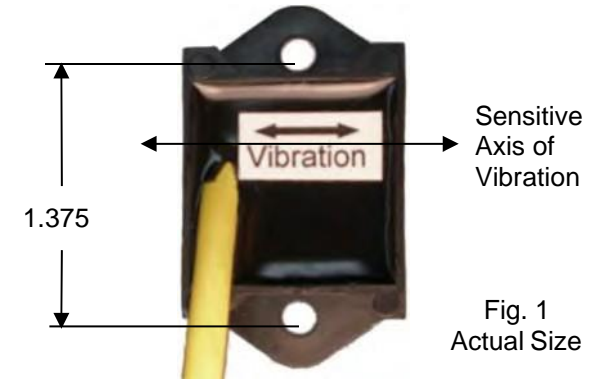
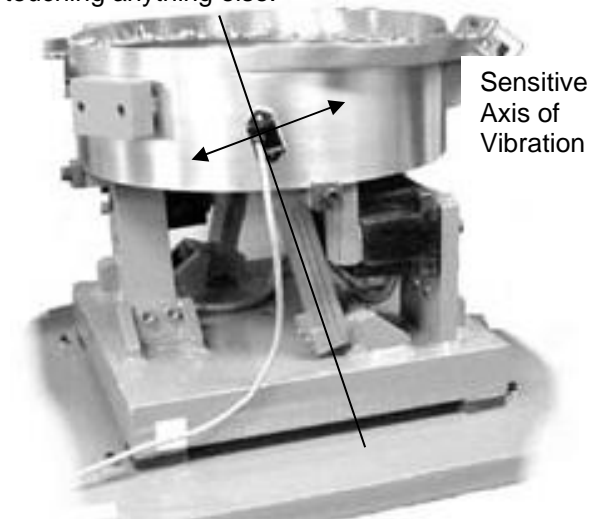

Fig. 1
Fig. 2 The arrow shows the direction of vibration which is at a right angle to the spring pack.
**A. ORIENT THE SENSOR** so that its sensitive axis is in the same direction as the vibration of the feeder. The arrow in figure 1 shows the sensor’s sensitive axis. Align the sensitive axis of the sensor in the same direction as the vibration (see figure 2). The sensor must be oriented correctly for proper operation.
- 6)Remove the vibration sensor from its protective packaging. Remove the liner from the adhesive backing. Avoid touching the tape. Align the sensor as shown in figures 1 and 2. Apply the vibration sensor to the prepared area of the feeder. Press the sensor very firmly onto the feeder surface for at least 10 seconds.
Use a cable tie and an adhesive-backed mount to attach the sensor cable to the side of the drive base. See Figure 2. Clean the mounting area before applying the adhesive-backed mount.